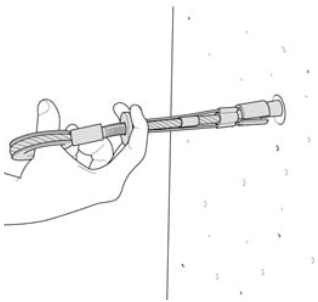

Figure 1
6. Insert the anchor fully 75mm (3 inches) into the hole (Fig 1).